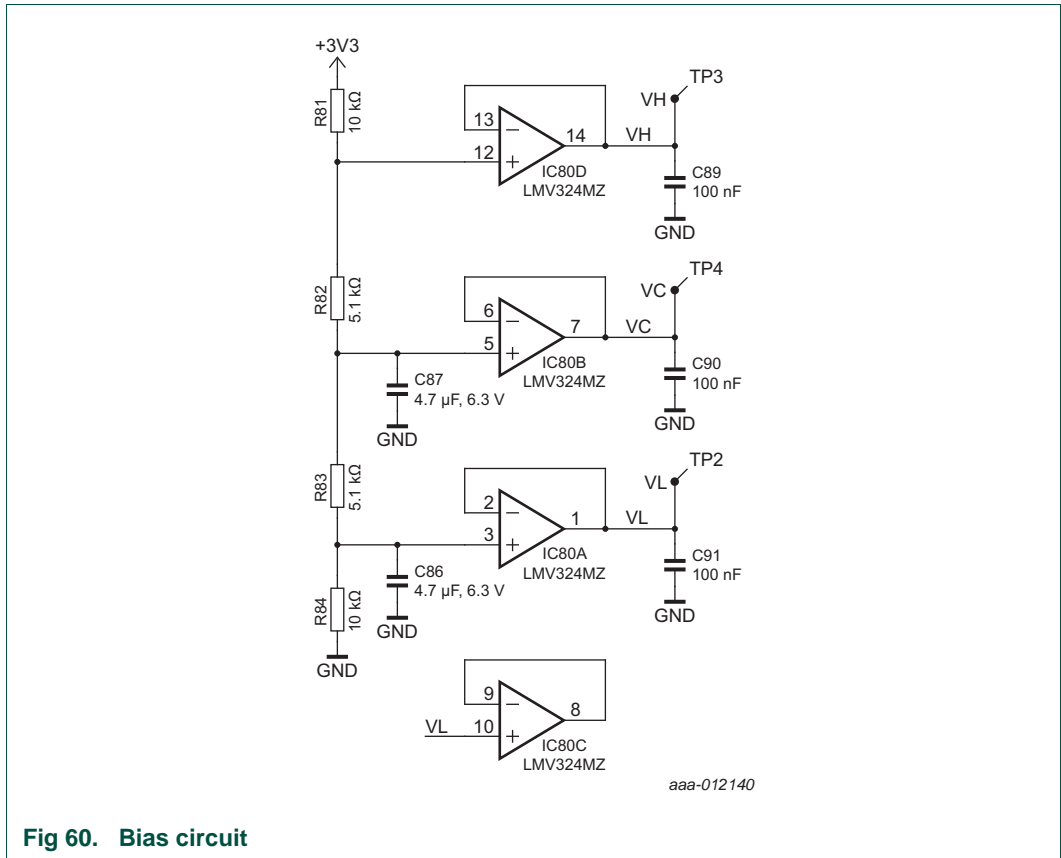

Fig 60. Bias circuit
Each channel requires three reference voltages (VL, VC, and VH), from the bias circuit. A resistor divider chain (R01, R02, R03, and R04) divides the supply voltage to produce one-third (VL), one half (VC) and two-thirds (VH). Each value is buffered by an op amp (sections of IC80). Test points are provided as PCB pads for VH (high), VC (center), and VL (low). The fourth section of the quad op amp (IC80) is not used. Noise spikes on each bias supply are removed by capacitors (C89, C90, and C91), power supply variations are removed by capacitors (C86 and C87). See Figure 60.